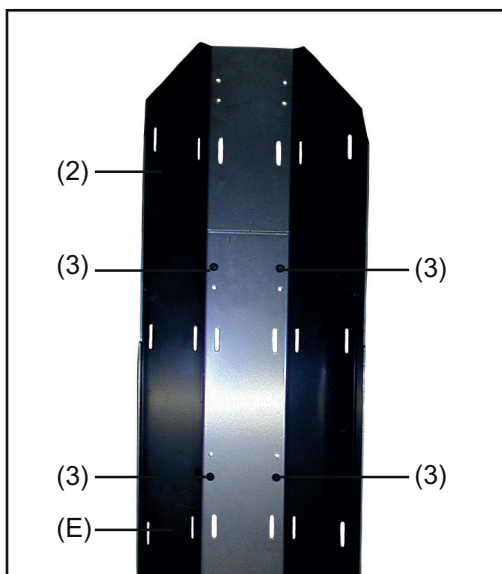

Fig.7 Attaching extension plate to gas cylinder holder
- 6 Place extension plate (2) onto gas cylinder holder (E) so that the eight holes overlap (Fig.7)
- 7 Insert the enclosed „Extrude-Tite“ screws (3) into each of the two uppermost and the two lowermost holes (Fig.7)
- 8 Screw the extension plate (2) to the gas cylinder holder (E) using these four screws (Fig.7)